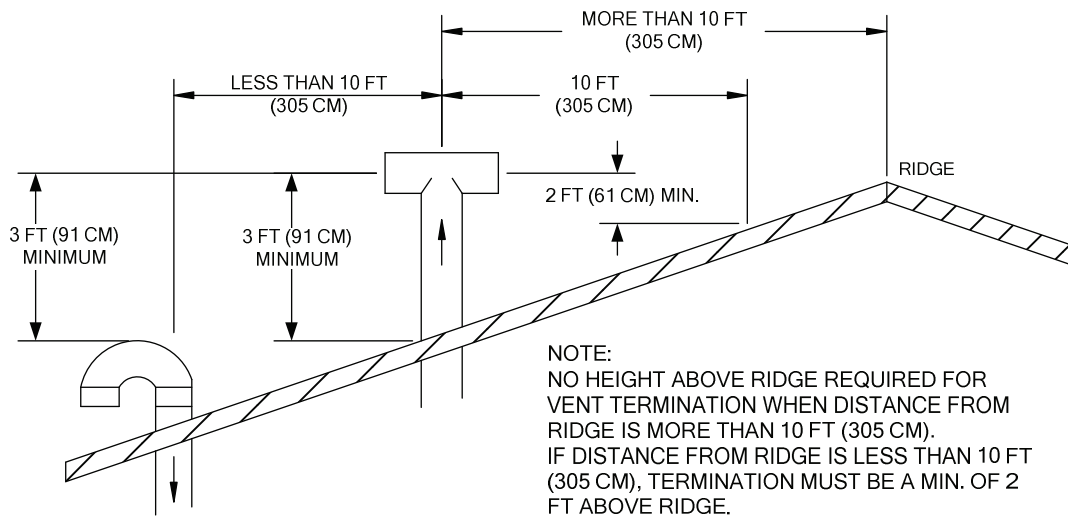

FIGURE 7
- a Combustion air inlet must be 3 ft below any vent outlet within 10 ft. See Figure 7.
- b Combustion air inlet must also face away from the vent outlet. See Figure 7.
7. When using sealed combustion, the combustion air inlet and vent outlet must be located on the same surface (same wall, roof, etc.). See Figures 7 and 8.